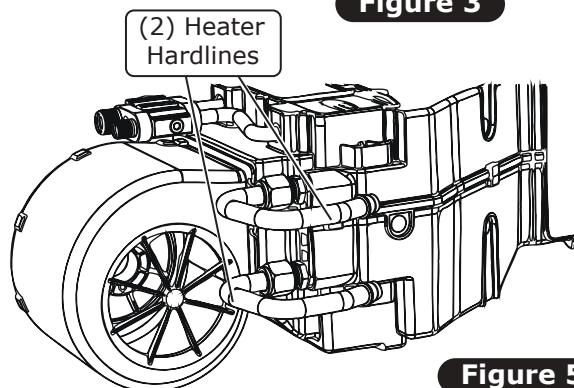

Figure 5
4. Install the (2) supplied heater hardlines onto the evaporator module (See Figure 5, below). **NOTE: Keep both hardlines parallel to one another and perpendicular to module's case.**